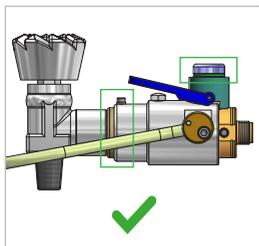
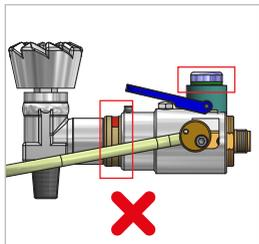

Figure 7
Figure 8
- The WEH® Connector is **only** connected correctly if the green ring is extended completely from the housing and visible. The red marking on the front part must **not** be visible (*Figure 7* and *Figure 8*).